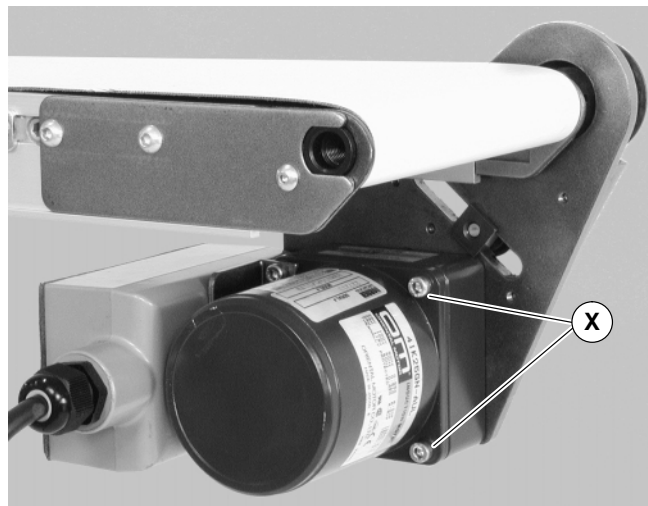

Figure 17
7. Remove four (4) screws (X of Figure 17) and detach gearmotor.